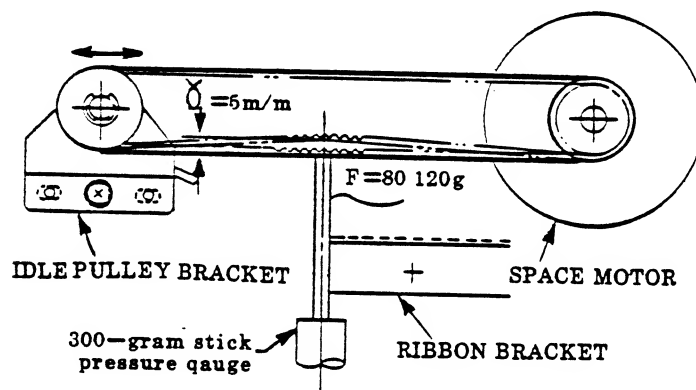

Figure 4-5. Space Belt Tension Adjustment
- Adjust the tension by moving the idle pulley bracket in either direction so that the tension is between 80 and 140 g when the space belt is depressed 5 mm at the point illustrated below in Figure 4-5.